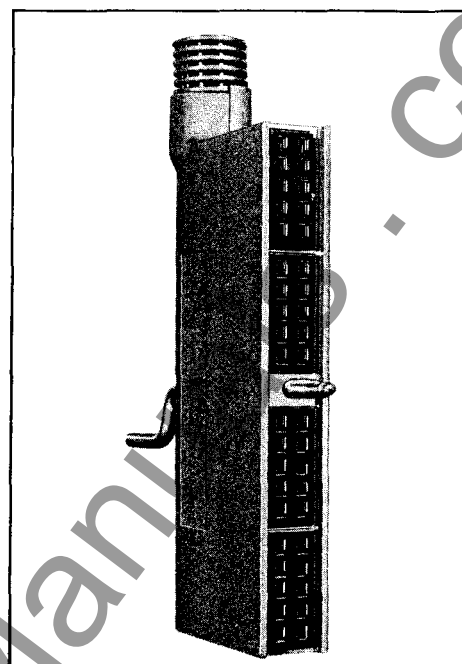

Figure 1-3.
1.2.2 Control Power Plug (Figure 1-3 & 1-4)
Control power for secondary control circuit is accomplished by installing the control power plug on the front of the circuit breaker element. This multi-contact plug (Fig. 1-3 & 1-4) is a "Jones" type plug. Each individual plug consists of ten contacts. Four plugs are mounted in each assembly for a total of 40 contacts. The wiring to the individual plug terminals is accomplished by a slip-on (faston type) connector.